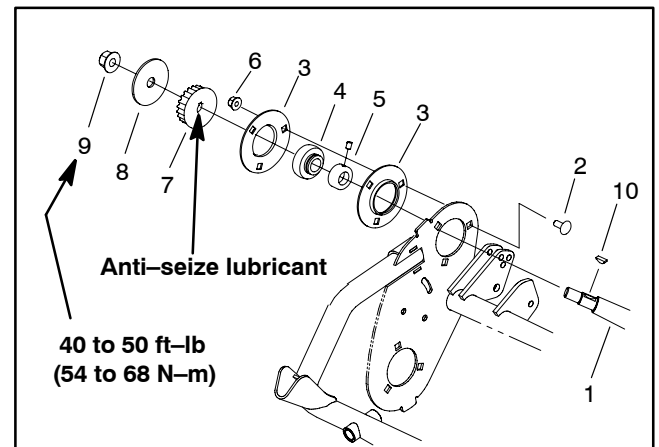

Figure 33
7. Unlock self aligning bearing collars on differential axle shafts (Fig. 33):
8. Install locking collars to self aligning bearings (Fig. 33):